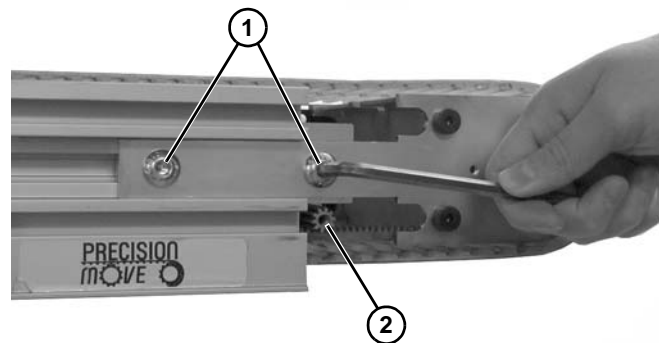

Figure 35
9. On both sides of the tension end, loosen the two tail clamp bolts (**Figure 35, item 1**).
10. Loosen the pinion (**Figure 35, item 2**) to extend head plate assembly.
11. After adjusting proper tensioning, tighten tail clamp bolts (**Figure 35, item 2**) on both sides of conveyor to 146 in-lb (16.5 N-m).